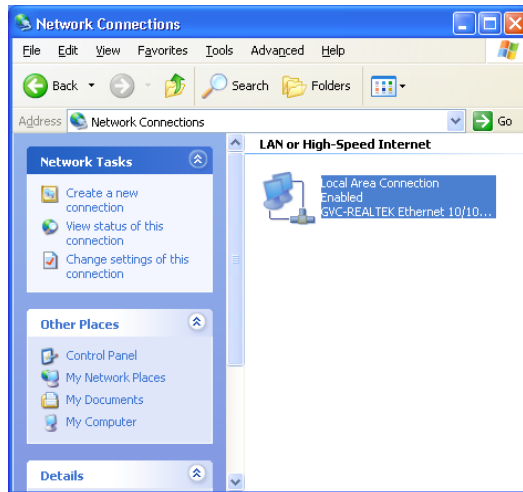

Figure 6. The Network Dialog Box
1. Open the Windows Control Panel and double-click the Network Connections icon. The Network Connections dialog box appears (see Figure 6).